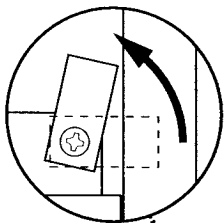

Fig. 31
1. Swivel the two retaining plates (Fig. 31) through 90°. Lift the control box slightly and allow it to hinge forwards. Undo the two retaining screws and remove the cover panel (Fig. 32).